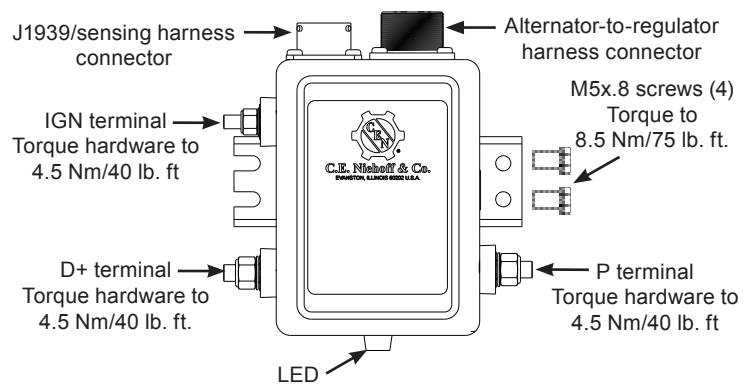

Figure 2: Regulator Connections
3. Plug alternator-to-regulator into receptacle on regulator. See Figure 2 for receptacle location.
- Regulator **IGN terminal (if required)**: Regulator must receive voltage from vehicle DC ignition source or multiplex in order to become energized. Torque terminal hardware to 4.5 Nm/40 lb. in. See Figure 2 for terminal identification.
- Regulator **D+ terminal (if required)**: Provides DC system battery voltage to vehicle (5A maximum) for charge indicator lamp, relay, or multiplex while alternator is producing output. Torque terminal hardware to 4.5 Nm/40 lb. in. See Figure 2.
- Regulator **P/AC terminal (if required)**: Taps AC voltage from alternator, typically half the charge voltage (3A maximum). P/AC terminal provides alternator RPM frequency at 7.5:1 ratio for use with tachometer. Torque terminal hardware to 4.5 Nm/40 lb. in. See Figure 2.
5. If using a J1939/temperature-voltage harness or sensor, plug J1939 harness into J1939 receptacle on regulator. See Figure 2 for receptacle location. Harness sold separately¹.
6. If using a multiple alternators in a parallel-operation setup, plug J1939 communication harness into J1939 receptacle connecting each regulator. See Figure 2 for receptacle location. Harness sold separately².